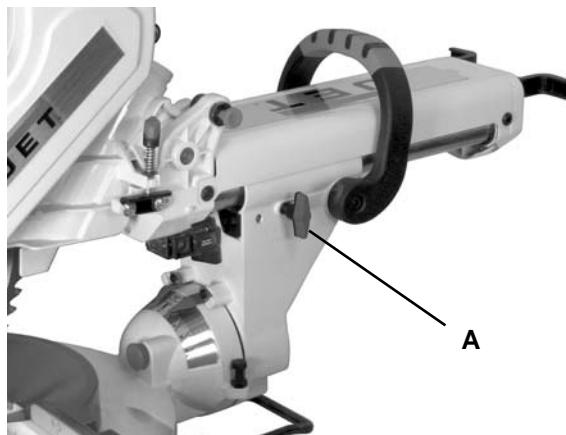

Figure 25
- For a chop cutting operations on small workpieces, slide the cutting head assembly completely toward the rear of the unit and tighten the *carriage lock knob* (A, Fig. 25).
- To cut wide boards up to 12-1/4 in., the *carriage lock knob* (A, Fig. 25) should be loosened to allow the cutting head to slide freely.